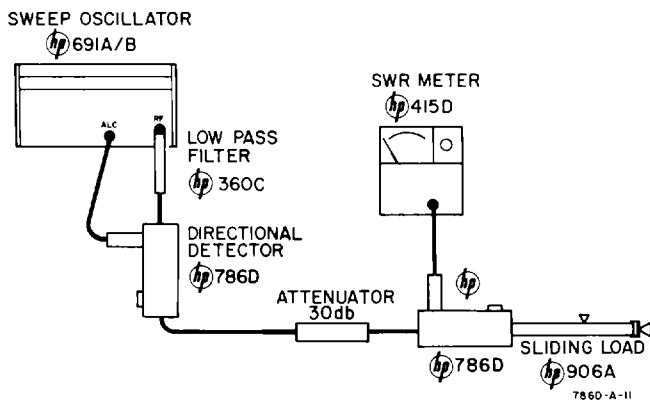

Figure 10. Directivity Check
- a. Set up equipment as shown in Figure 10.